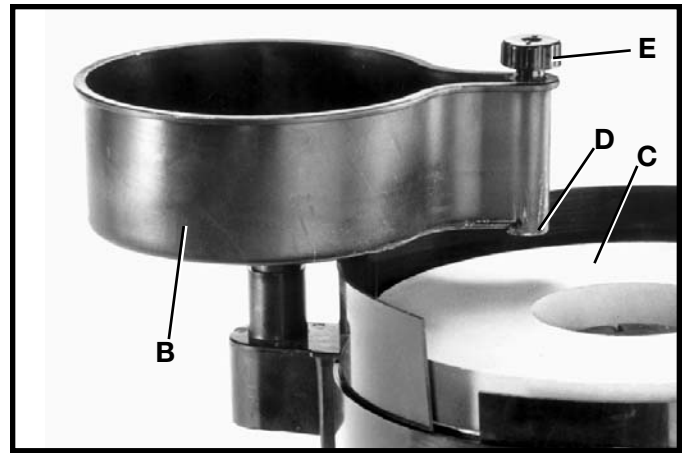

Fig. 19
2. The water tank (B) Fig. 19, can be rotated to direct the water from the spigot (D) onto the grinding wheel. The ideal position of the spigot (D) would be to the center (C) of the grinding wheel.
3. To control the flow of water from the spigot (D) Fig. 19, turn knob (E).